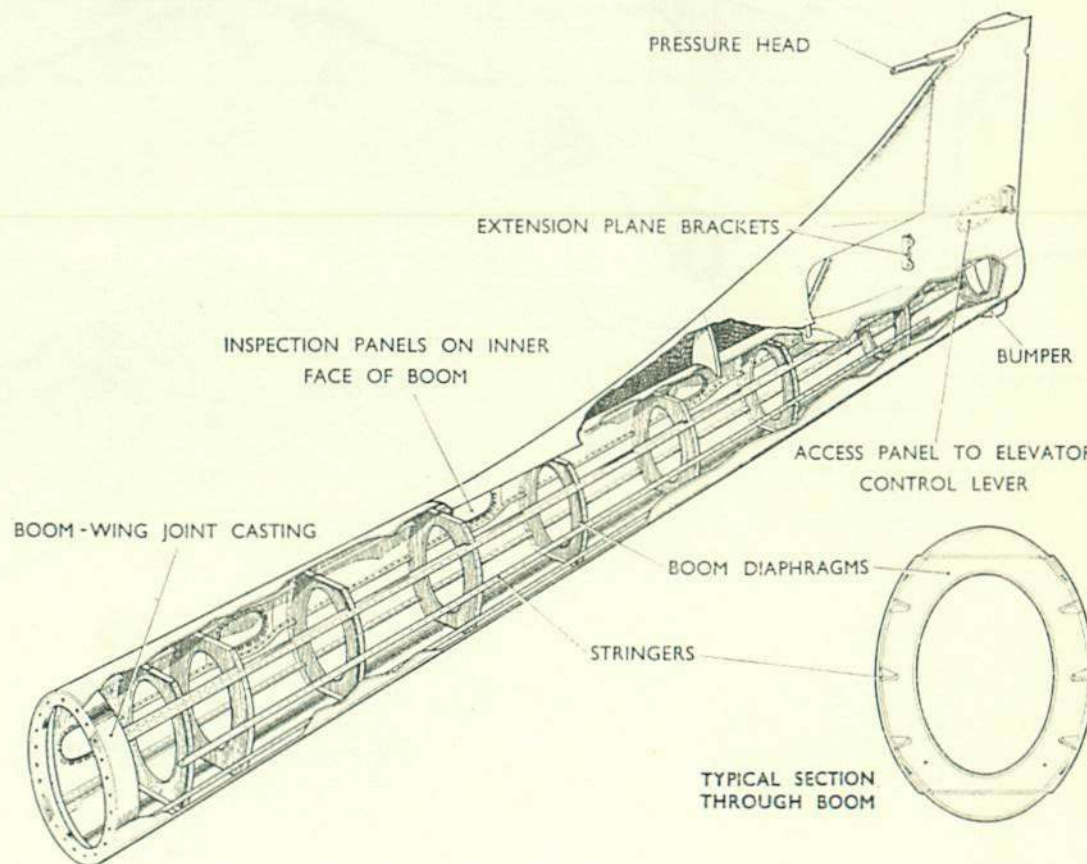
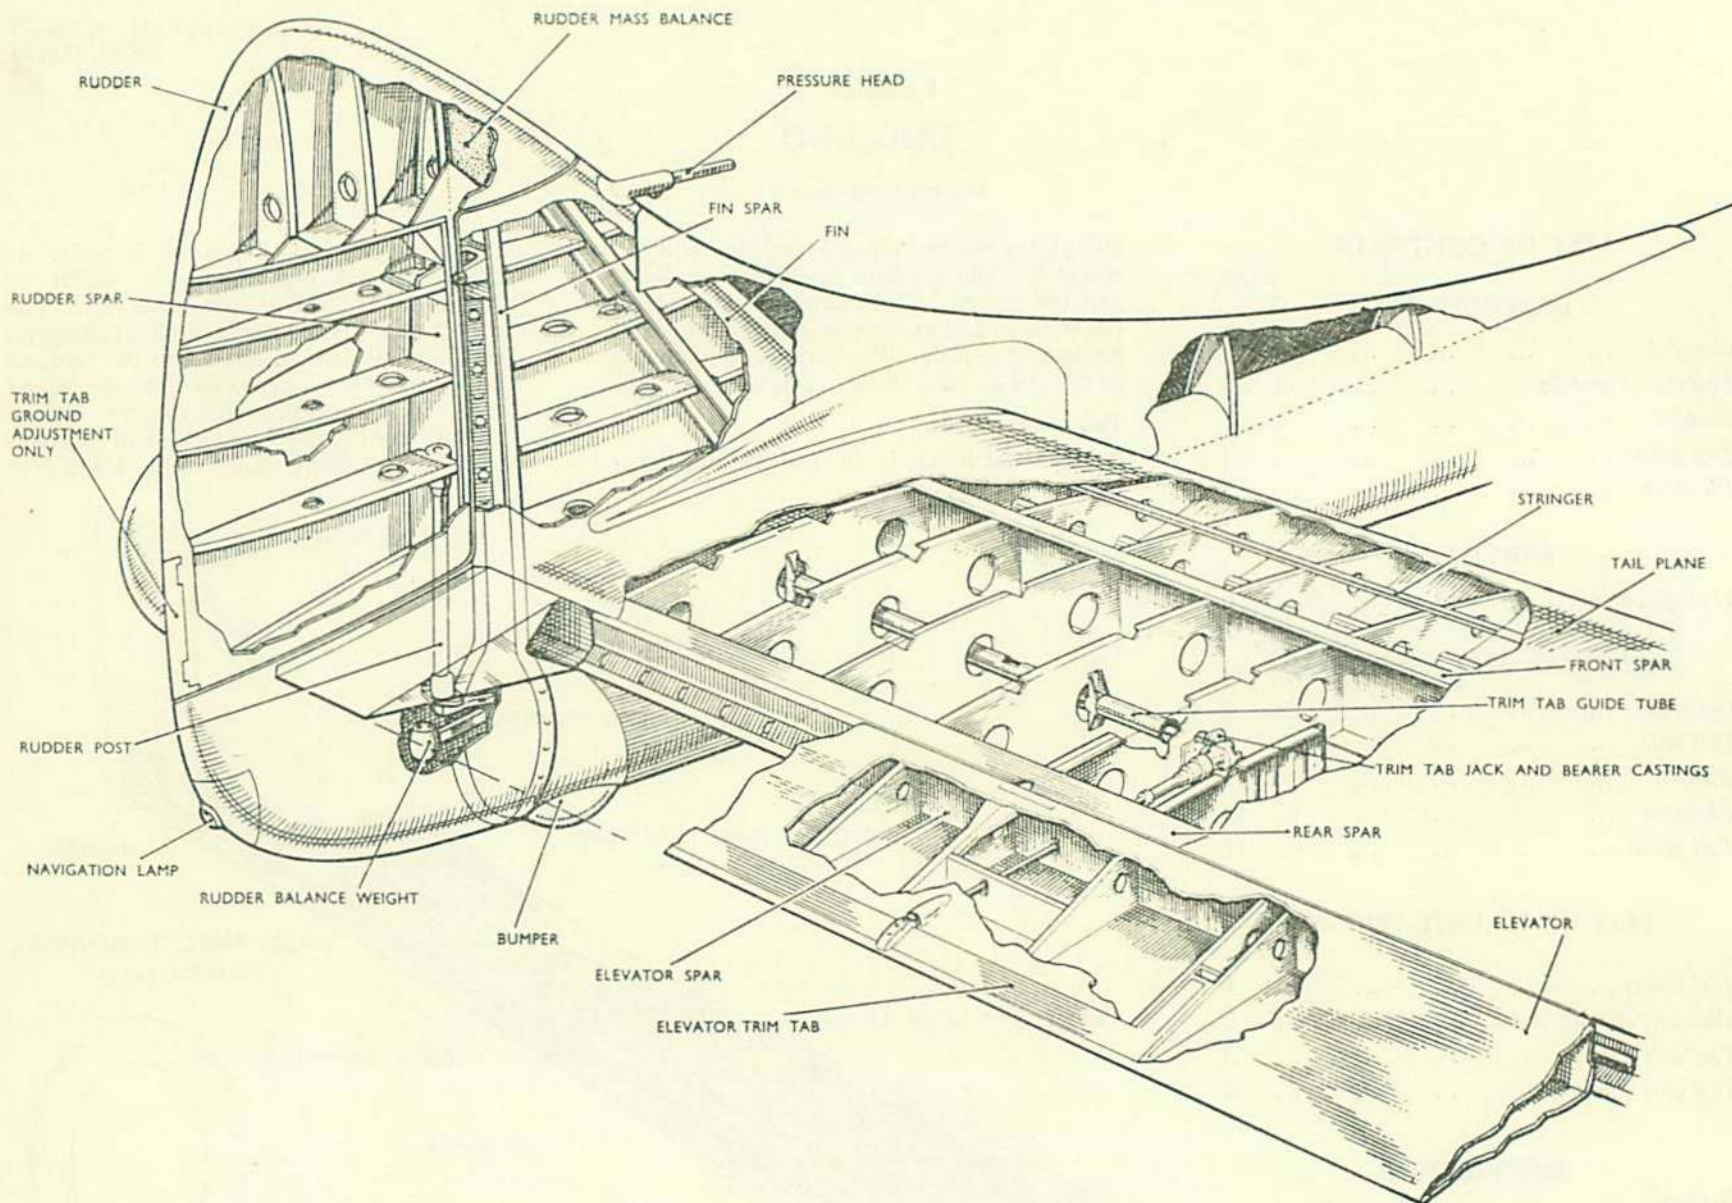
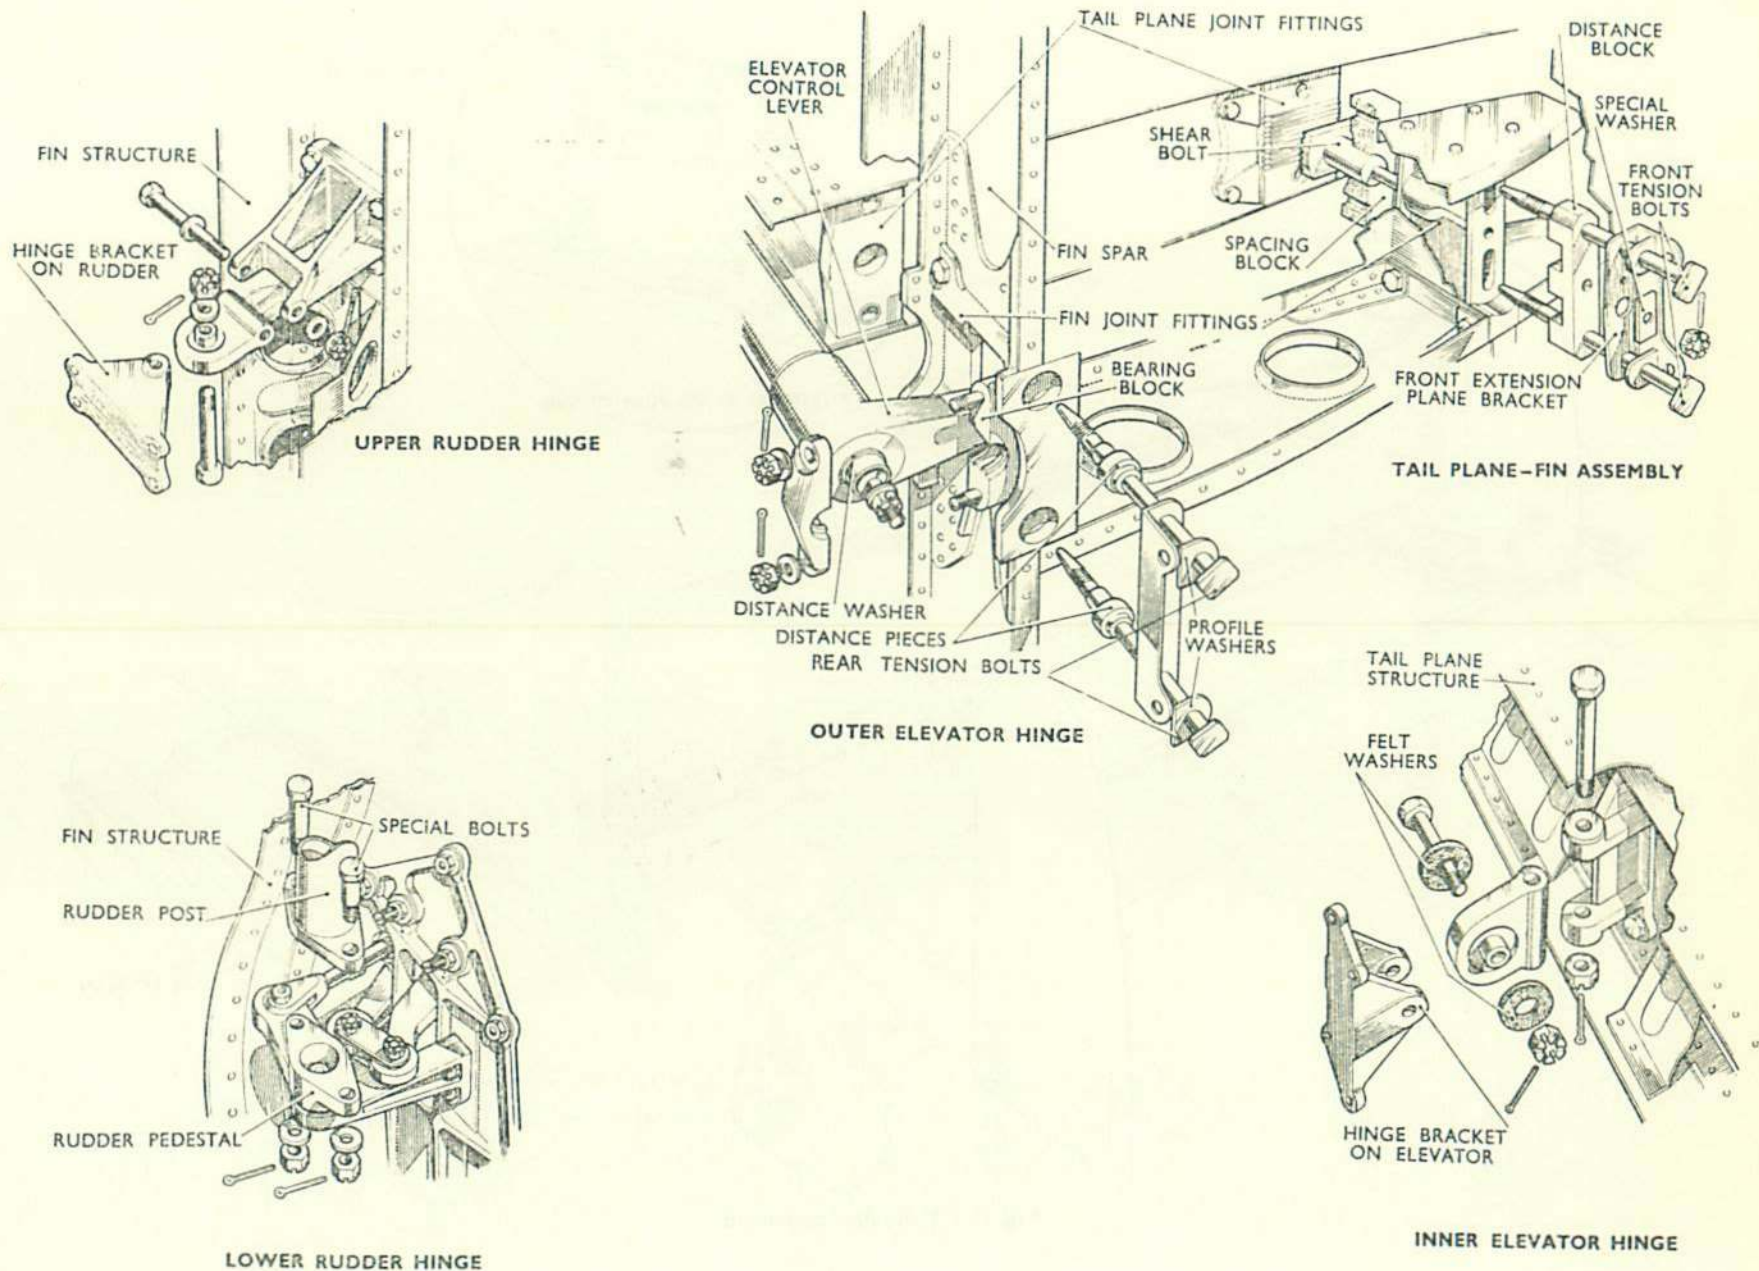
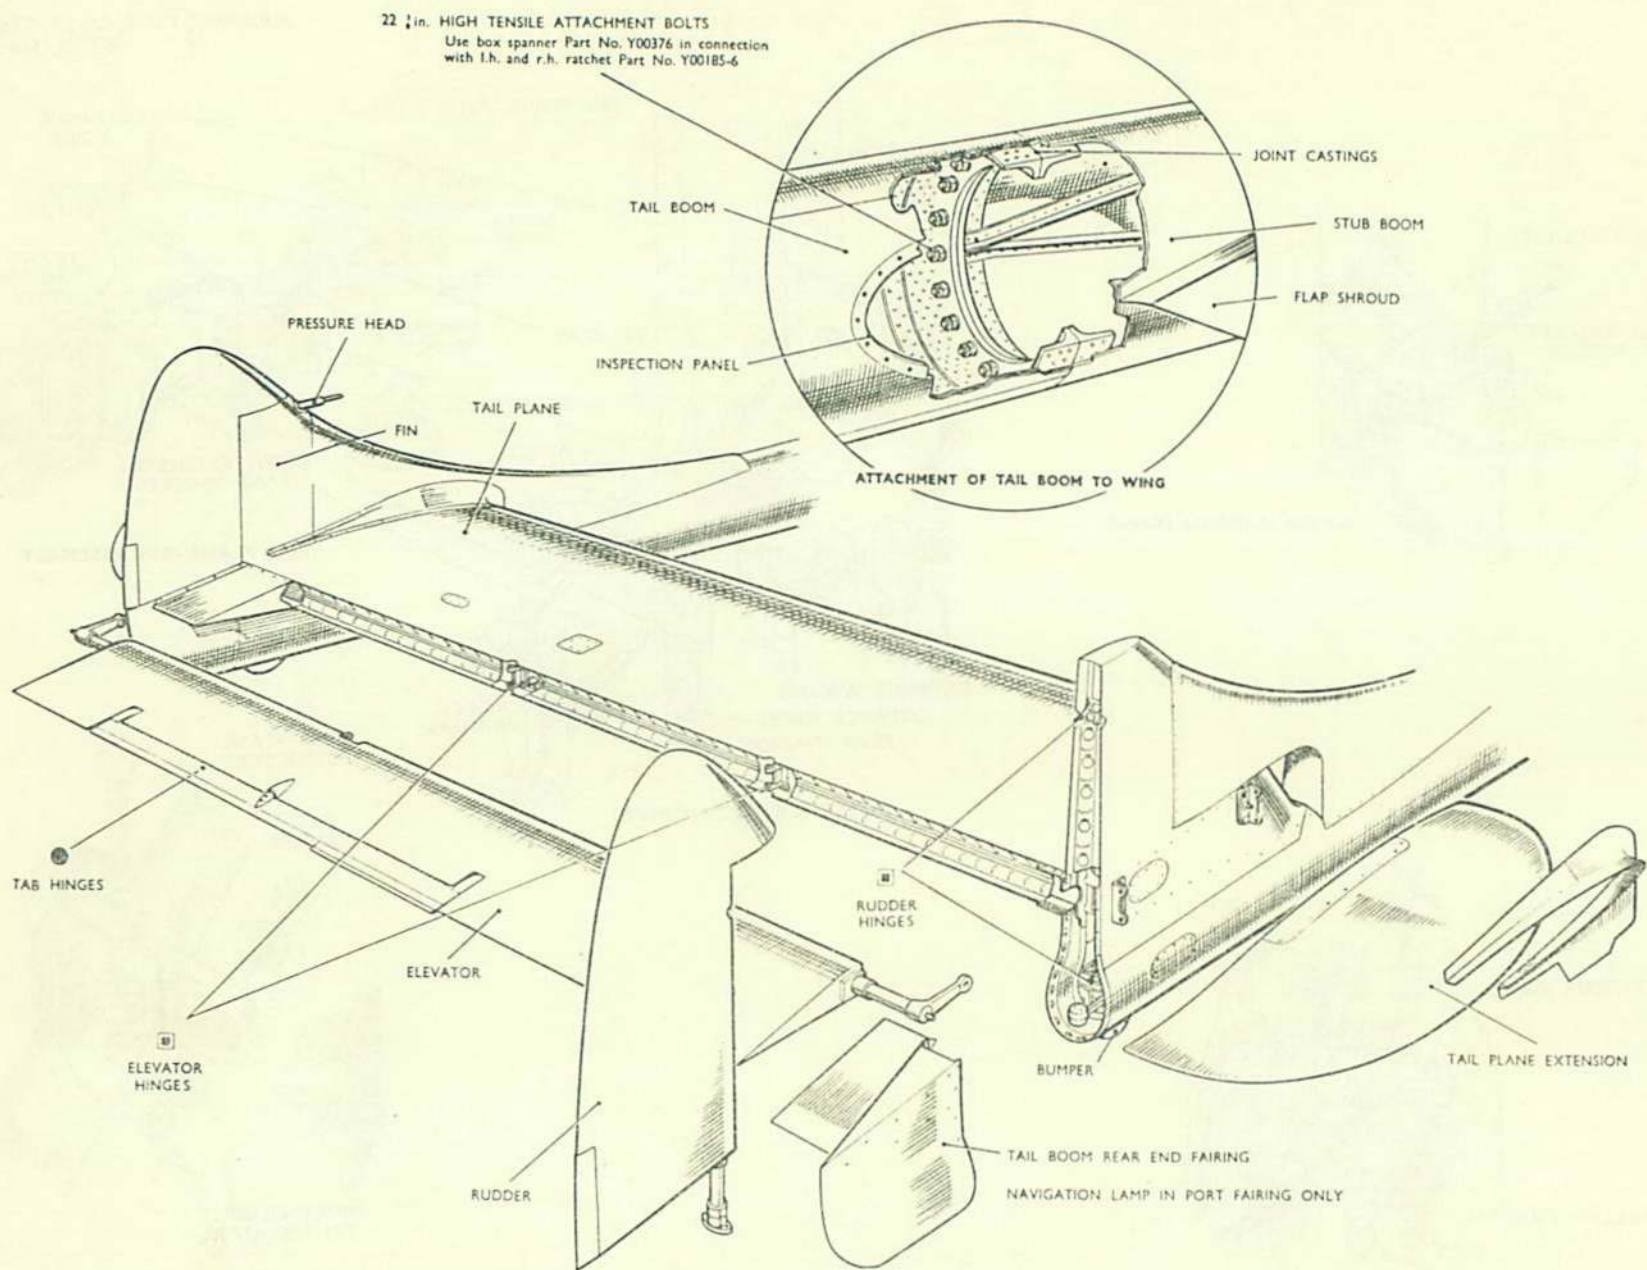

Fig. 1. Tail boom
Fig. 2. Tail unit structure
Fig. 3. Tail unit details
Fig. 4. Tail unit components
tail plane, the tail plane extensions and the elevator. The pressure head for the A.S.I. and the tail navigation lamp are located on the port fin and in the tail fairing of the port boom respectively. The various components of the tail unit are shown in fig. 4.
alloy structure consisting of a series of equally spaced diaphragms to which is riveted the light-alloy skin coverings. The latter is reinforced with longitudinal stringers. An L-section casting, riveted to the forward end of the boom, provides the attachment face. Built integrally with the rear end of the tail boom is the fin. Details of the construction are clearly shown in fig. 1 and 2.
3. Each rudder is built up from a tubular rudder post and a channel-section spar to which are attached the light-alloy flanged ribs (fig. 2). The skin is riveted to the spar and ribs and encloses the mass-balance weight in the horn of each rudder. A small trim tab is fitted to the base of each rudder. The setting of the rudder controls and the adjustment of the trim tab are described in Chap. 4.
4. The tail plane comprises two channel-section spars to which are attached the nose and main ribs. The whole structure is covered with a light-alloy skin reinforced with spanwise stringers (fig. 2). The incidence of the tail plane is not adjustable. The two centre hinge brackets for the elevator are attached to the tail plane rear spar, whilst the bearing blocks for the two outboard elevator hinges (fig. 3) are attached to the rear spar of each fin. Small tail plane extensions are attached outboard of each fin.
5. The elevator comprises a single channel-section spar to which light-alloy trailing edge ribs are attached and the whole is covered with a light-alloy skin (fig. 2). Torque tubes to which the control levers are fitted, project from each end of the elevator. At the end of each torque tube is a spigot which locates in a bearing block on the rear spar of each fin (fig. 4). A trim tab, which is adjustable from the cockpit, is fitted to the elevator. Full details of its mechanism together with the instructions for rigging the elevator, are contained in Chap. 4.
6. The main servicing operations on the tail unit are concerned with the mechanism of the flying controls which are fully described in Chap. 4 of this Section. The method of checking the rigging of the tail plane, also the location of drain holes and access panels is described and illustrated in Sect. 2, Chap. 4. The lubricant table in Sect. 2, Chap. 4 of this volume, identifies the lubricant symbols used in fig. 4.
- (1) Remove the tail boom rear end fairing (fig. 4).
- (2) Remove the split pins, nuts and special bolts securing the rudder post to the hinge pedestal (fig. 3).
- (3) Support the rudder and remove the split pin, nut and horizontal hinge bolt from the upper rudder hinge.
- (1) Remove the tail boom rear end fairings, the rudders, the tail plane extensions (fig. 4) and the small detachable panel from the outboard surface of each fin (fig. 1).
- (2) Disconnect the operating rods from the elevator control levers in each fin. Access is gained through the small detachable panel referred to in sub-para. 1.
- (3) Remove the inspection cover from the lower surface of the elevator at the port centre hinge and disconnect the elevator tab push-rod.
- (4) Remove the split pins, nuts and bearing cap from the bearing block on each fin rear spar to release the outboard elevator hinges (fig. 3).
- (5) Support the elevator in the UP position and remove the split pins and nuts from the two vertical inner hinge bolts.
- (6) Support the elevator in the DOWN position and remove the two centre hinge bolts from the top, then remove the elevator.
- (1) Remove the inspection panel from the upper surface of the tail plane above the trim tab jack (fig. 4), disconnect the cables from the sprocket chain and withdraw the cables from the tail plane.
- (2) Unscrew and remove the two tension bolts from each side of the tail plane front spar, followed by the two tension bolts from each side of the rear spar (fig. 3). These tension bolts also secure the attachment brackets for the tail plane extensions.
- (3) Support the tail plane and spring the fins apart slightly, then remove the tail plane.